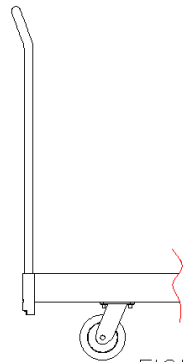
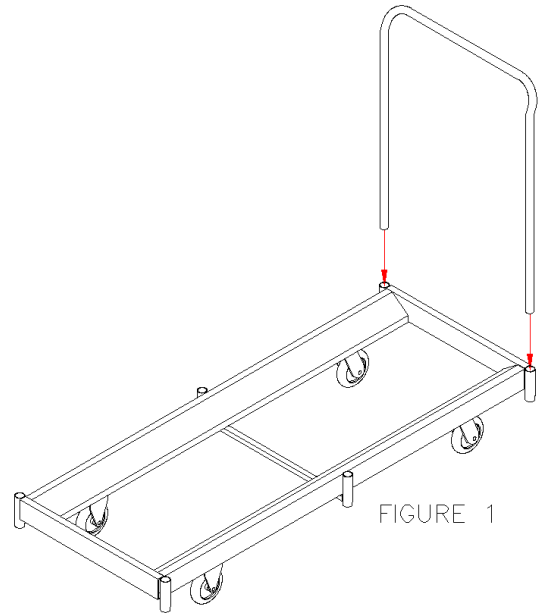

FIGURE 2
FIGURE 1
1. Insert the Main Handle into the sockets on the end of the Base with the swivel casters (See Figure 1). Make sure the handle tilts towards you (See Figure 2).